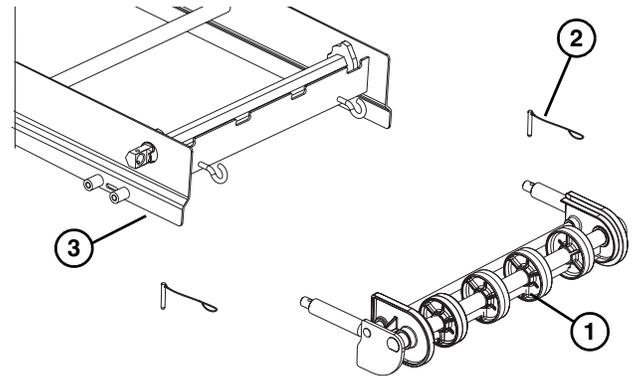

**Figure 14**
- Slide the tip up sleeves (**Figure 14, item 1**) and stop keys (**Figure 14, item 2**) outward on hex shaft assembly (**Figure 14, item 3**) until the sleeves seat in the holes of the frame and stop keys are seated against frame stops (**Figure 14, item 4**).